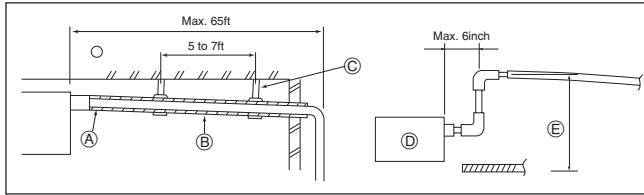

Fig. 5-1
5.1. Drainage piping work (Fig. 5-1)
- Refer to the Fig.5-1 for piping work.